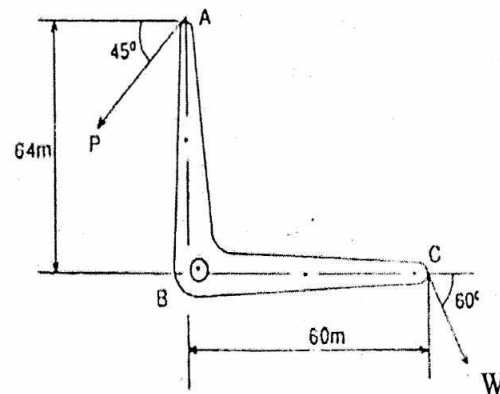

Fig. 2
- In a bell crank lever shown in Fig. 2, $W=600$ N, determine the value of P and the reaction of the fulcrum B on lever.